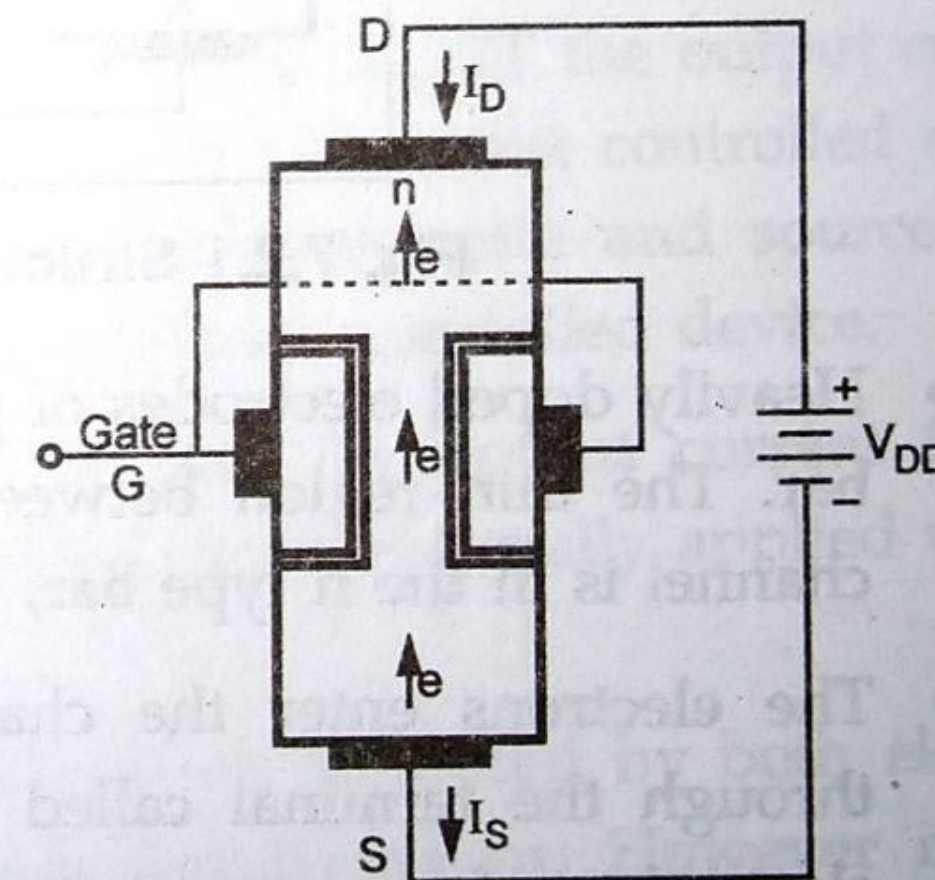

Fig. 7.4.1 JFET with gate open and V_{DD} is applied between drain and source
- Let us consider the circuit shown in Fig. 7.4.1. As shown in Fig. 7.4.1, voltage V_{DD} is applied between drain and source. Gate terminal is kept open. The bar is of n-type material.